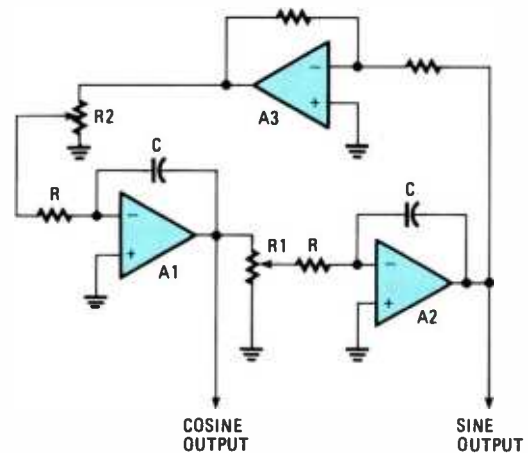

Fig. 21—A quadrature oscillator can be made with op-amp integrators.
37. (AGC) Another way to generate sine-waves is to use an integrator circuit, as shown in Fig. 21. The circuit is called a *quadrature oscillator*. Quadrature refers to two sine-waves  $90^\circ$  out of phase. The circuit produces both sine and cosine waves. (Recall that the integral of sine is  $-\cosine$  and the integral of cosine is sine.) Also, op-amp integrators invert.